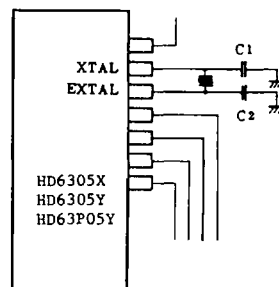

Figure 39 Design of Oscillation Circuit Board
- (1) Locate crystal, ceramic resonator, and load capacity C₁ and C₂ as near the LSI as possible. (Induction of noise from outside to the XTAL and EXTAL pins may cause trouble in oscillation.)
- (2) Wire the signal lines to the neighbouring XTAL and EXTAL pins as far apart as possible.
- (3) Board design of situating signal lines or power supply lines near the oscillator circuit as shown in Fig. 40, should not be used because of trouble in oscillation by induction. The resistor between the XTAL and EXTAL, and pins close to them should be 10MΩ or more. The circuit in Fig. 39 is an example of good board design.